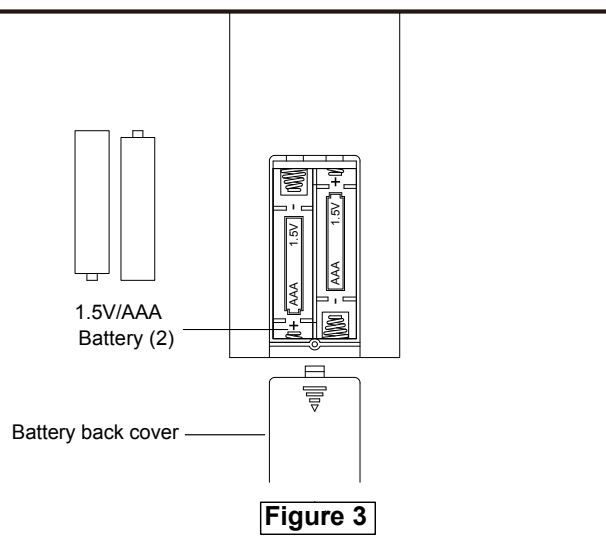

Figure 3
- ☐ **3.** To make the fan operational, install the two AAA batteries included (If not used for long periods of time, remove battery to prevent damage to transmitter). Store the remote away from excessive heat or damp. (Figure 3)